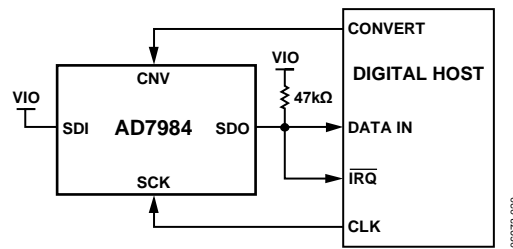
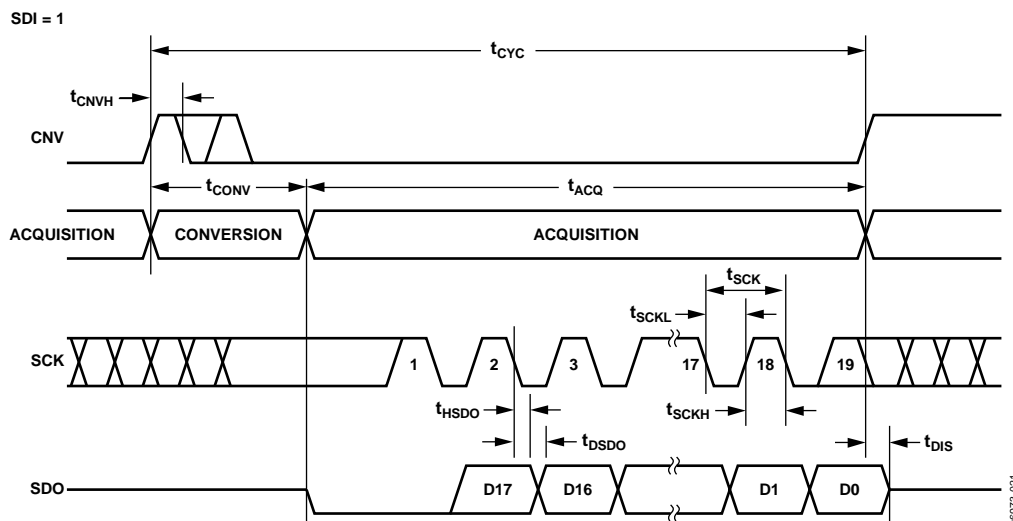
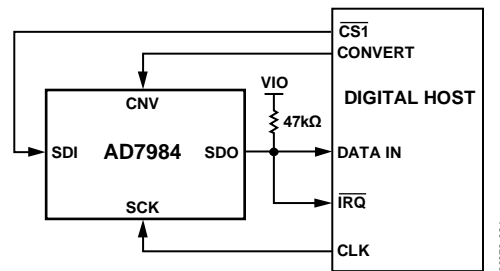
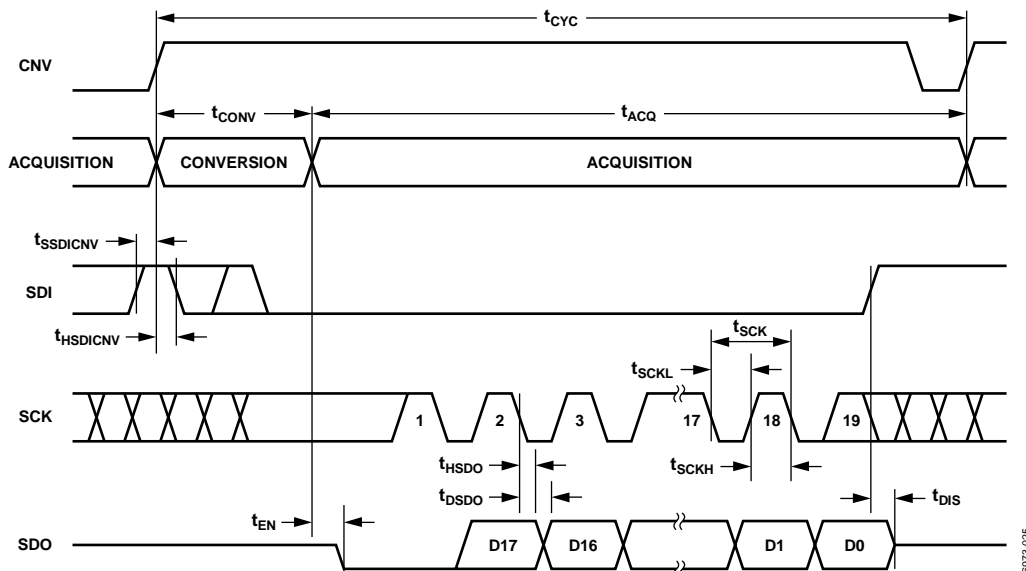

Figure 30.  $\overline{\text{CS}}$  Mode, 3-Wire with Busy Indicator Connection Diagram (SDI High)
Figure 31.  $\overline{\text{CS}}$  Mode, 3-Wire with Busy Indicator Serial Interface Timing (SDI High)
Figure 34.  $\overline{CS}$  Mode, 4-Wire with Busy Indicator Connection Diagram
Figure 35.  $\overline{CS}$  Mode, 4-Wire with Busy Indicator Serial Interface Timing
- In  $\overline{\text{CS}}$  mode if CNV or SDI is low when the ADC conversion ends (see Figure 31 and Figure 35).
The connection diagram is shown in Figure 30, and the corresponding timing is given in Figure 31.
The connection diagram is shown in Figure 34, and the corresponding timing is given in Figure 35.